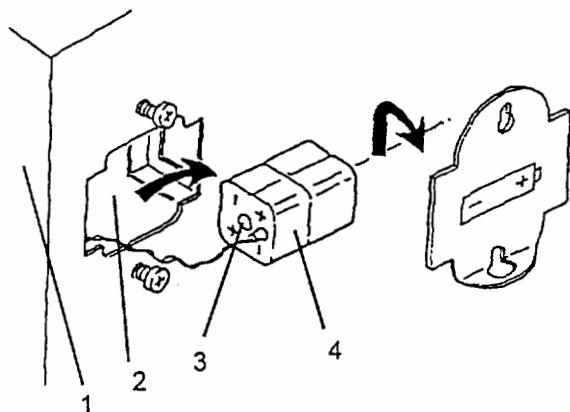

Figure 4-2 — Opening the Battery Holder
- c. Remove the battery holder (1) from the blood refrigerator (2) (Fig 4-2).
- d. Release the slotted screw (3) in the end section (4) of the battery holder and separate the two sections, remove the batteries (Fig 4-2).